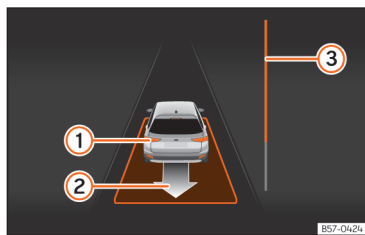

Fig. 127 On the instrument panel display: driving off from perpendicular parking.
- Reverse until the continuous ParkPilot signal sounds; **OR:** reverse until the instrument panel display shows the forward indication. The progress bar >>> Fig. 127 (3) indicates the distance to cover.
- Press the brake pedal until the parking assist system completes the steering wheel turns; **OR:** press the brake pedal until the symbol (S) goes out on the instrument panel screen.